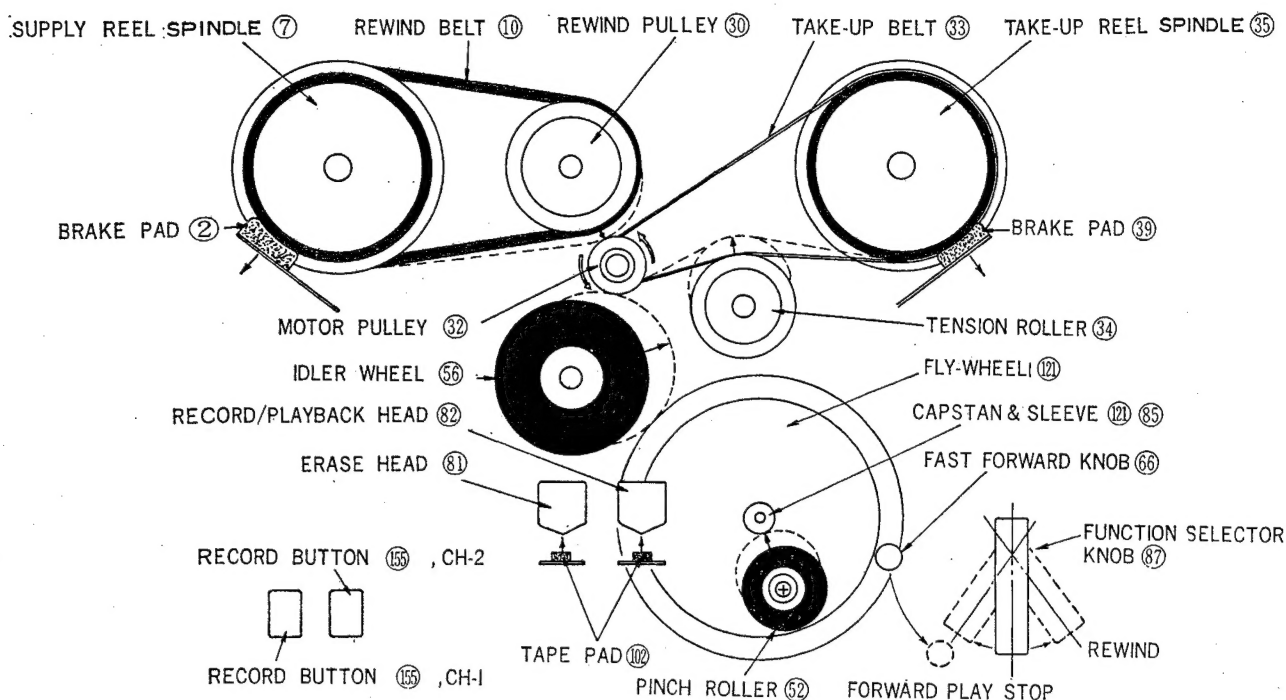

Figure 2 Tape Transport Mechanism
The function selector is used to actuate or stop the movement of the tape and select the direction of its movement. The five operating modes are as follows. Refer to Figure 2 and Mechanism Exploded View.
(1) FORWARD PLAY (Refer to Figure 2)
(2) RECORD (Refer to Figure 2)
(3) STOP (Refer to Figure 2)
(4) REWIND (Refer to Figure 2)
(5) FAST FORWARD (Refer to Figure 2)